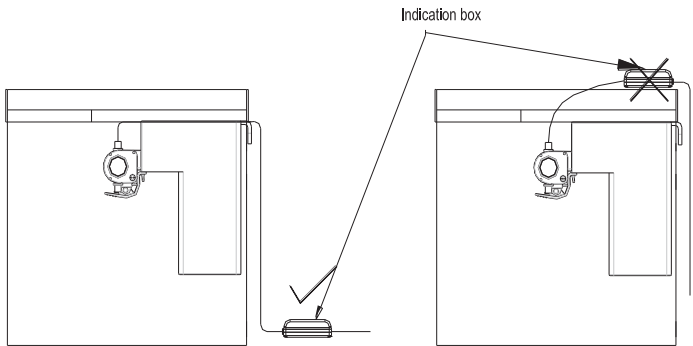

Fig.2
4. **To avoid the risk of shorting by water vapor, the LED indication box MUST be on the outside of the tank but NEVER on the top of the tank. (Refer to Fig.2)**